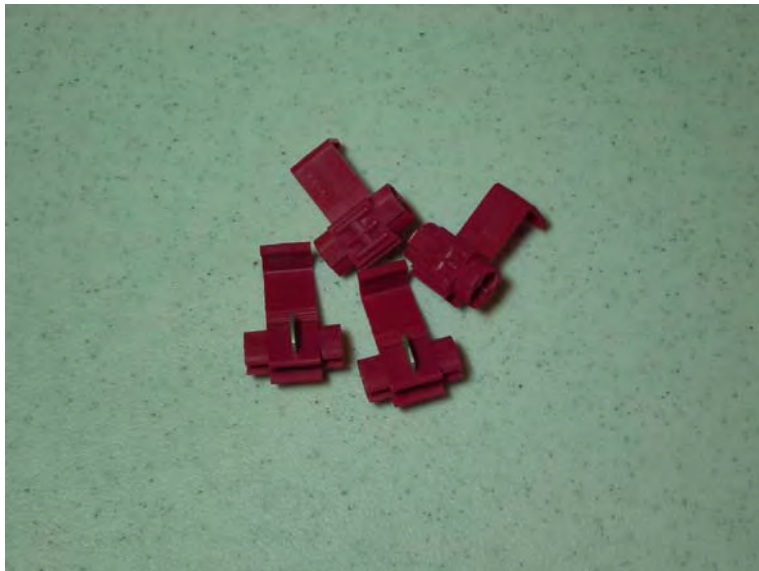

Figure 2– Red splice clips used to tap into wires throughout the installation
- 3.3 In reference to Figure 2, soldering can be used in place of these splice connectors.
- 4.2.11 Red Splice Clips (see Figure 2 below)